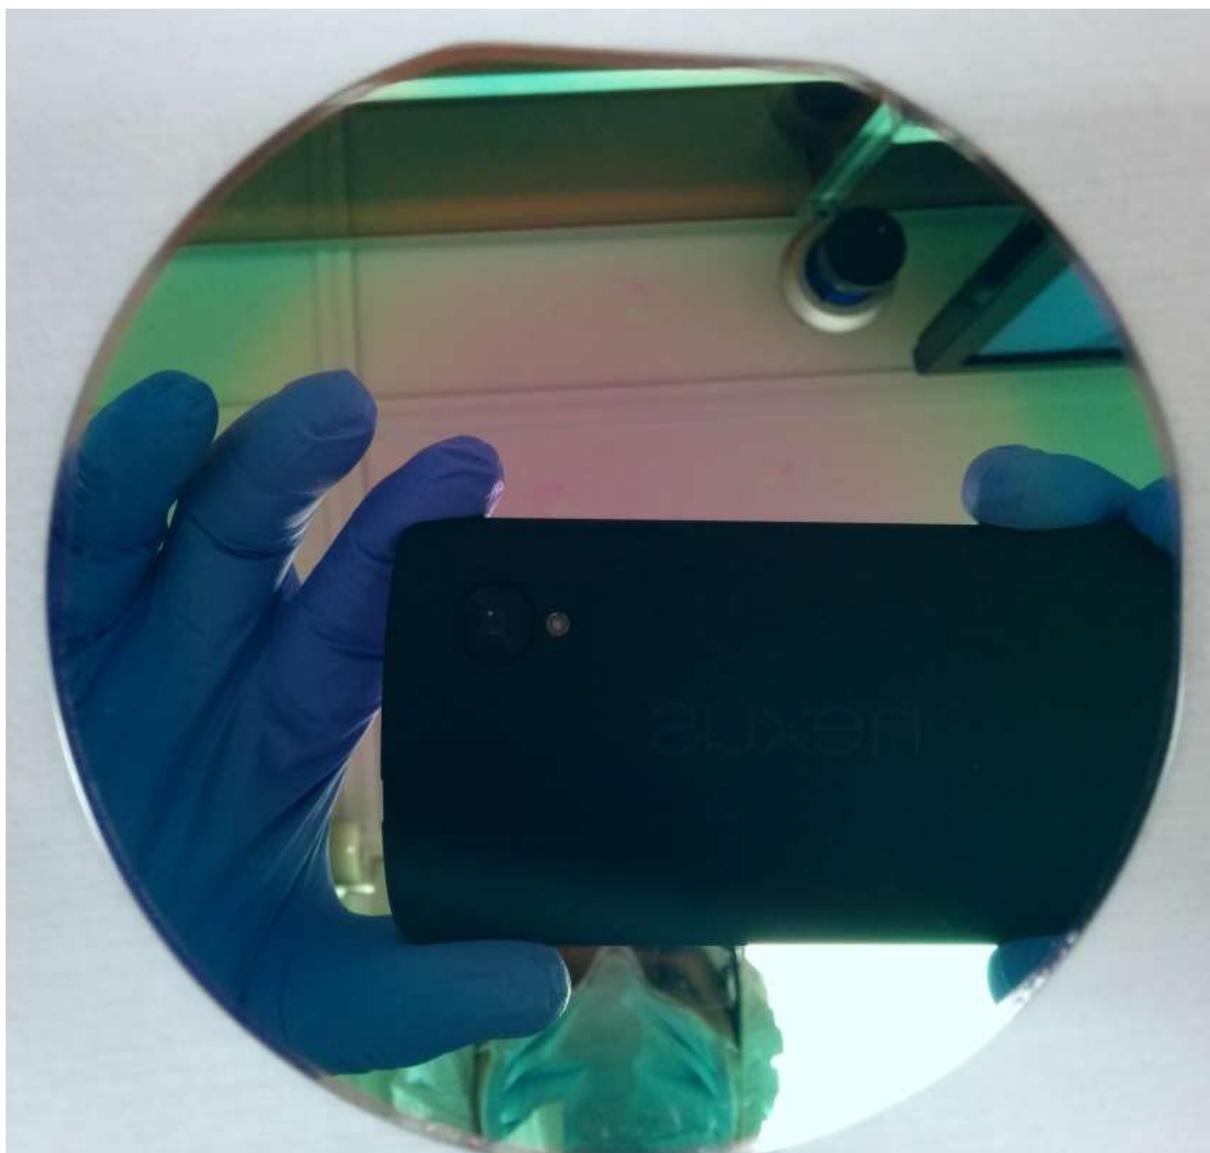

Figure 1 A good-quality, five-layer sol-gel PZT film
- 9.2** PZT is “cloudy.” This can be caused by contamination, or by bubbles, and is indicative of a poor-quality PZT film. A good-quality film should be mirror-like in appearance (see Figure 1).